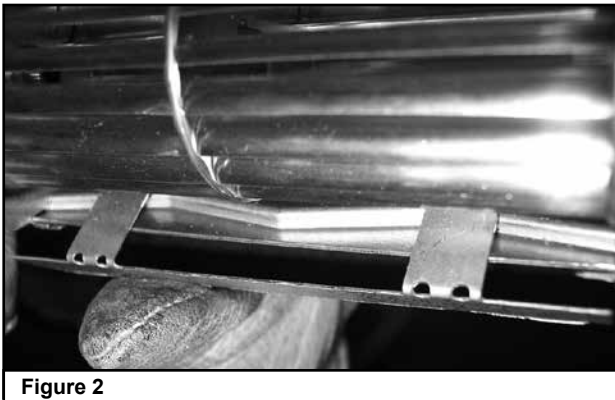

Figure 2
- Attach fan bracket by hooking hand brakes into open end of fan as shown in Figure 2. Crimp down tight with pliers so tabs do not interfere with rotor blades.